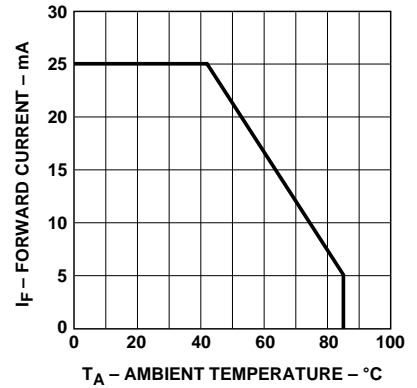

Figure 4. Maximum DC Current vs. Ambient Temperature.
- Derate linearly as shown on Figure 4.